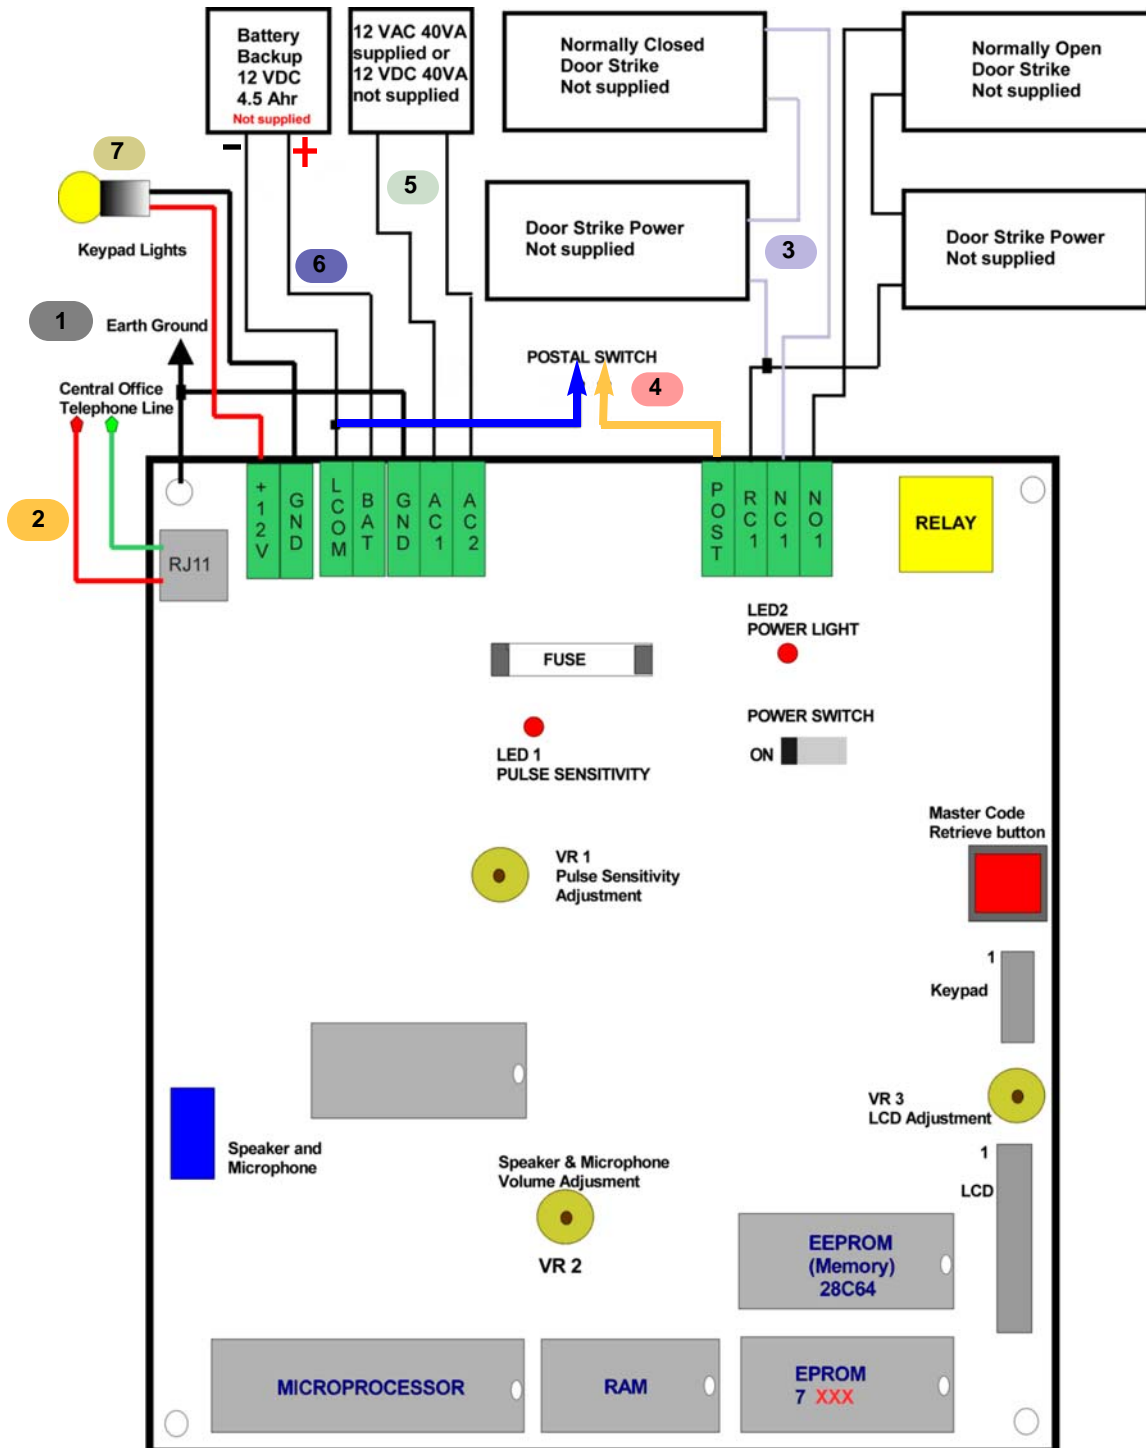

Figure 2.1
See figure 2.1 for door strike wiring diagram. You **MUST** use two conductors 18 gauge stranded wire minimum.
**5** A 12 VAC 40VA transformer is supplied by Pach and Company. However, 12 VDC 40VA power supply or 12VDC power supply with battery backup can be used to power the AeGIS 7000 Series, use the same connection as shown on figure 2.1.
**WARNING:** The connection is polarity sensitive. Connect the battery (+) terminal to the connector labeled (BAT) on the AeGIS and the battery (-) terminal to the connector labeled LCOM on the AeGIS. See figure 2.1 for wiring diagram.